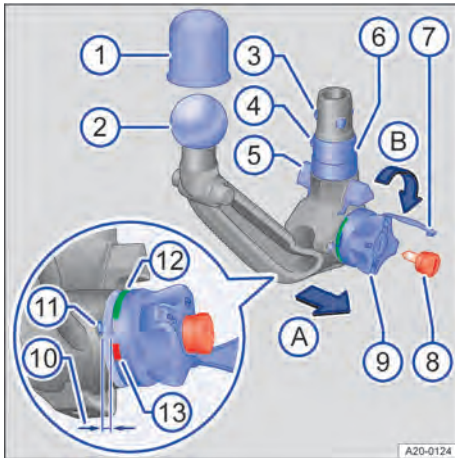

Fig. 158 Overview: removable ball coupling.
4. Remove the lock cap → Fig. 158 ⑦ from the lock on the handwheel.
5. Insert the key → Fig. 158 ⑧ into the lock and turn it anti-clockwise.
6. Hold the ball coupling → Fig. 158 ② tightly in one hand → ⚠.
7. Use your other hand to pull out the handwheel → Fig. 158 ⑨ in the direction of arrow A and hold it in this position.
8. Turn the handwheel → Fig. 158 ⑨ as far as it will go in the direction of the arrow B.
9. Hold the handwheel → Fig. 158 ⑨ in this position and guide the ball coupling ② downwards out of the mount. The ball coupling engages and is pre-tensioned.
2. Use your other hand to turn the handwheel → Fig. 158 ⑨ as far as it will go in the direction of the arrow B.
3. Press in the ball → Fig. 158 ④.
4. Turn the handwheel back → Fig. 158 ⑨ anti-clockwise.
5. Release the ball → Fig. 158 ④. The handwheel no longer protrudes from the ball coupling. The ball coupling is now slackened.
6. Turn the key → Fig. 158 ⑧ clockwise and remove. Store the key in the stowage box.
7. Close the lock cap → Fig. 158 ⑦.